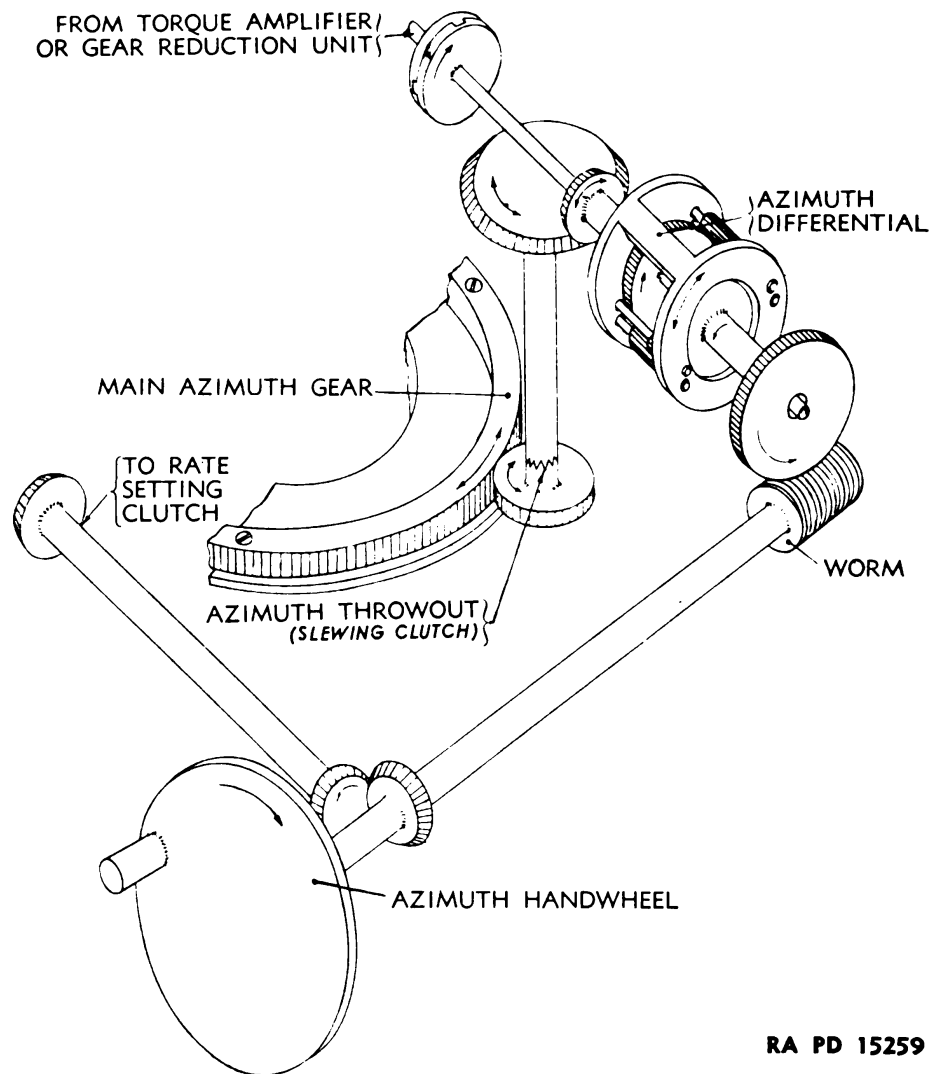

Figure 13 – Azimuth Differential Drive Shaft and Azimuth Tracking Mechanism – Schematic Gearing Diagram
c. Azimuth Tracking Mechanism (figs. 13 and 14).
(1) This mechanism consists primarily of the tracking differential which adds the manual tracking motion received from the azimuth handwheel to the mechanical tracking motion received from the torque amplifier or gear reduction unit. The differential transmits